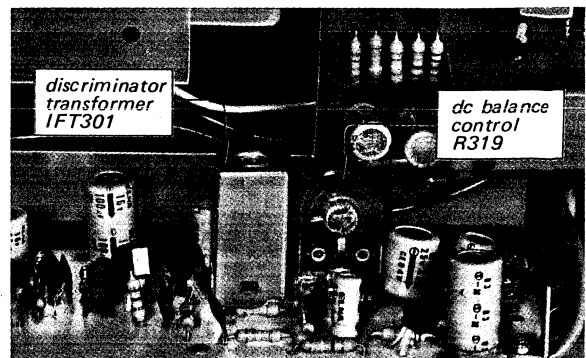

Fig. 3-6 Parts location
3. Turn the top core (secondary side) of IFT301 discriminator transformer (see Fig. 3-6) with a hex-head alignment tool to obtain a null-point reading on the tuning meter. If the discriminator transformer (IFT301) is not aligned correctly, some deviation on the tuning meter will be observed.
4. Adjust the dc-balance control R319 (5k) (see Fig. 3-6) to obtain a symmetrical deflection of TUNING meter (see Fig. 3-14) when detuning higher or lower than the reference carrier frequency while applying rf signal as follows: